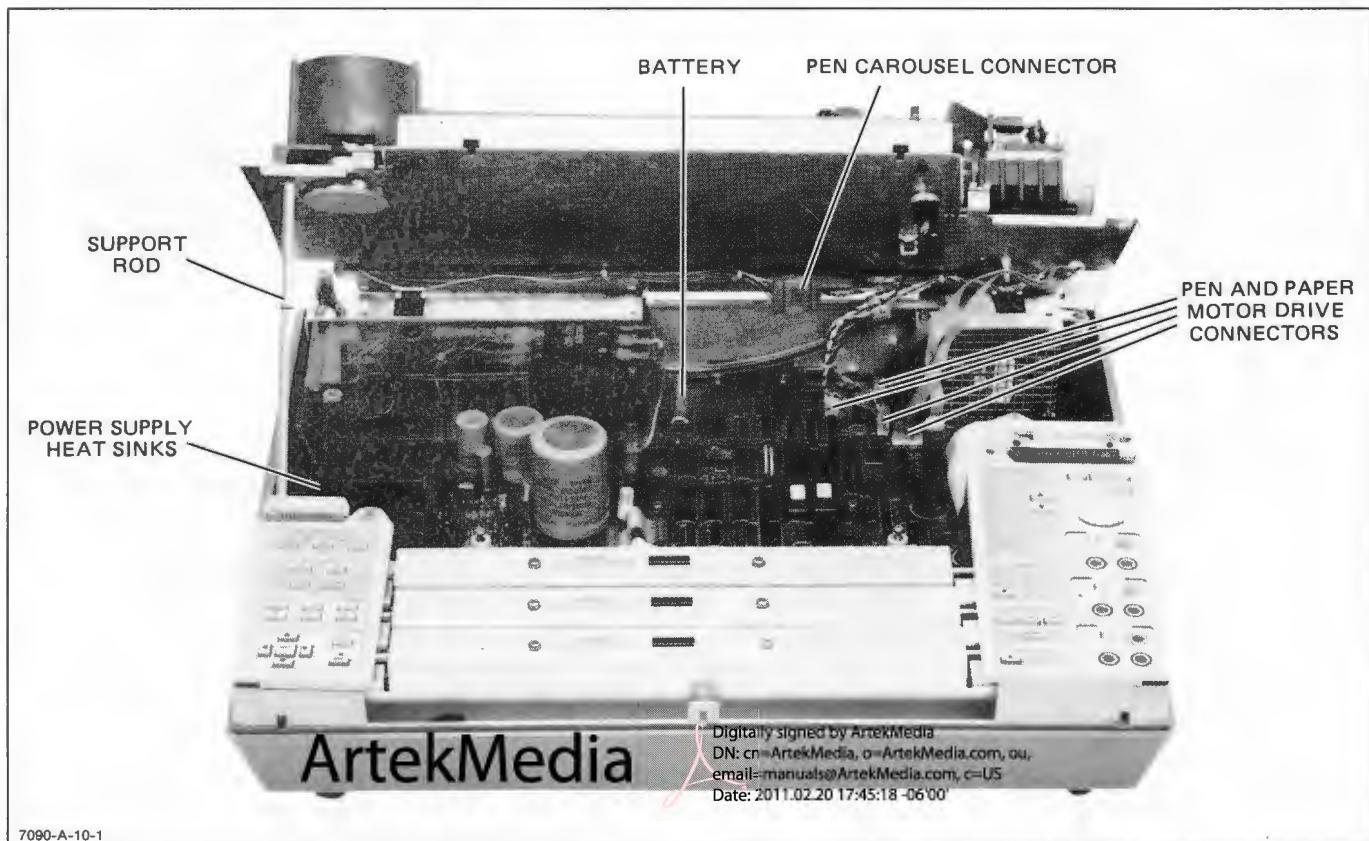

Figure 8-15. Battery/Connector Locations
- Lift front of assembly and secure with support rod. See Figure 8-15.